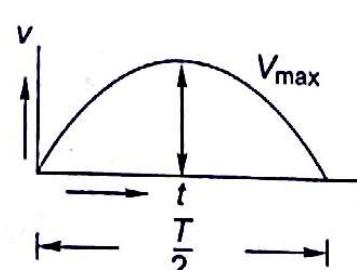

Fig. 10.9
10.6 The velocity time diagram is a sine curve shown in Fig. 10.9. How much distance is travelled by a particle in half cycle as shown?